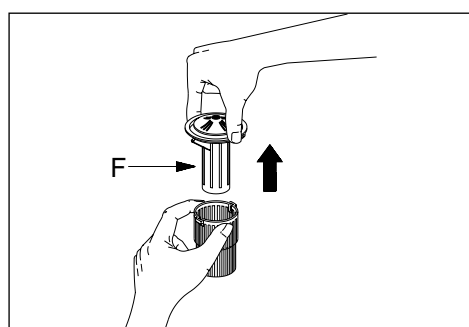

fig. 16c
- Remove the filter (F). Pull the filter out of the filter housing vertically (see fig. 16c).